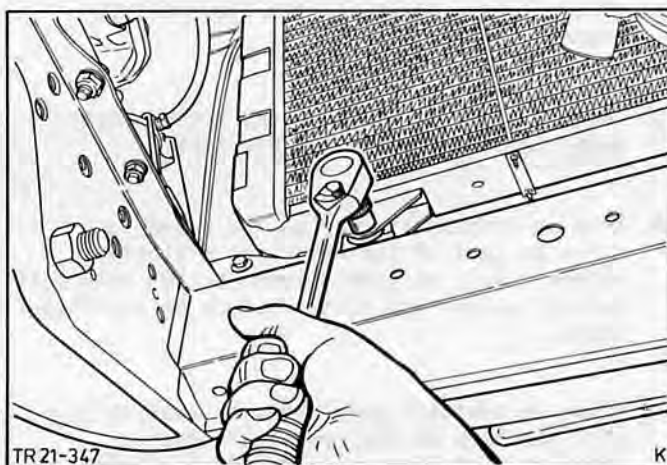

Fig.113. Secure bottom end of radiator.
26. Bolt radiator securely in place at top and bottom, Fig.113, and attach connecting pipe running to overflow tank securely to the body.